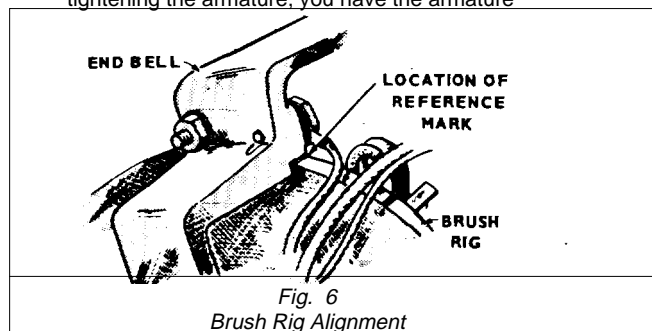

Fig. 6
- (5) Inspect brushes; they must be seated across the brush face if we are to have an accurate setting.
- (6) Connect a voltmeter across the dc terminals.
- (7) Loosen the brush rig mounting screws and rotate the rig to get the highest voltage with full load.
- (8) Rotate the rig in one direction until the voltmeter reading starts to decrease. Mark this point. See Fig. 6.
- (9) Repeat Step 8 in the other direction.
- (10) Half the distance between the two marked points is the neutral position.